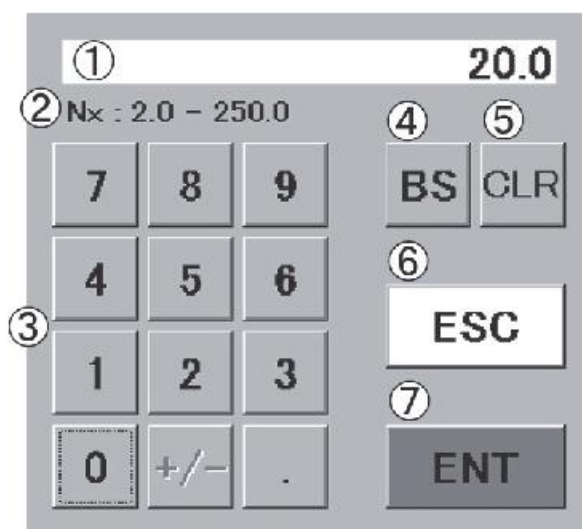

Fig. 6 Setting (Input)
- (6) Input the desired value for change from the keyboard (changing the yarn count from 40.0 to 20.0 in the example in Fig. 6). Touch [2], [0], [.] and [ENT] keys. Upon value input, the [CANCEL] and [SET] keys appear at right bottom on the screen.